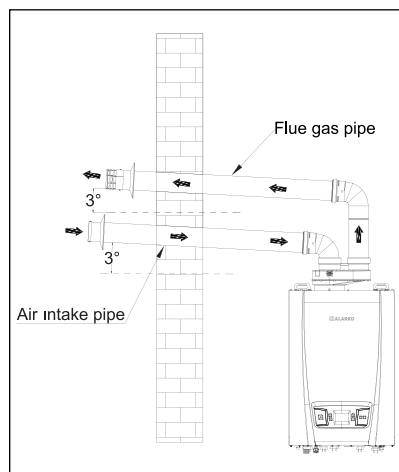

Figure 20. Angles of air intake and flue gas pipes
- Horizontal air intake pipes must slope downwards by 3° at the wall towards atmosphere to prevent the entry of rain water, dust or impurities to the pipe. For horizontal flue gas pipes, situation is different. Flue gas pipes must slope upwards by 3° to facilitate the flow of condensate water in flue back to combustion chamber, to prevent the stalactite formation by freezing in winter and the risk of drop and hurting to walking people (Figure 20). In case of horizontal concentric flues, flue gas pipe (inner pipe) must slope upwards whereas air intake pipe (outer pipe) must slope downwards. Horizontal concentric flue set must be installed parallel to floor. After installation horizontally, flue gas pipe stands slopped upwards by itself as a result of special design (Figure 21).